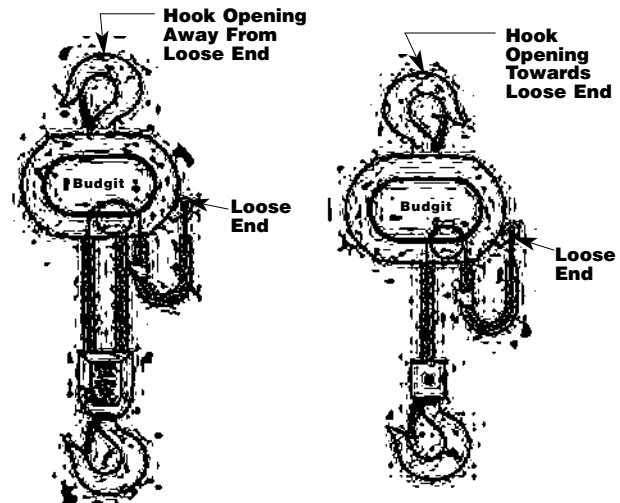

Figure 11. Hook Position
3. Feed a short length of soft wire through the opening between the chain guide (620-141), and stripper (620-143) until it comes out of the hoist. Remove the wire and attach the chain stop as shown in figure 11. On units with chain container, place the chain stop and loose end of chain in chain container. Attach chain container to chain guide.